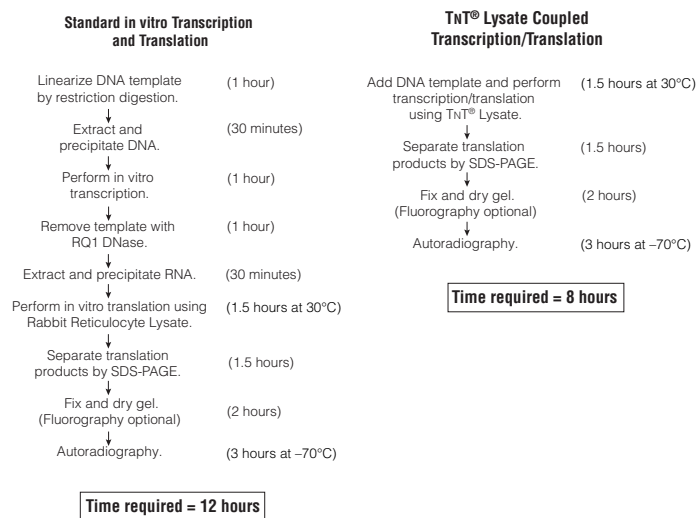

Figure 1. Comparison of standard *in vitro* transcription and translation procedures to the TNT[®] Lysate coupled transcription/translation protocol.
The TNT® Coupled Reticulocyte Lysate Systems^(a,b,c) offer researchers an alternative for eukaryotic in vitro translations: a single-tube, coupled transcription/translation system. The TNT® Lysate Systems greatly simplify the process and reduce the time required to obtain in vitro translation results (Figure 1). Standard rabbit reticulocyte lysate translations (1) commonly use RNA synthesized in vitro (2) from SP6, T3 or T7 RNA polymerase promoters and require three separate reactions with several steps between each reaction. The TNT® Systems bypass many of these steps by incorporating transcription directly in the translation mix.